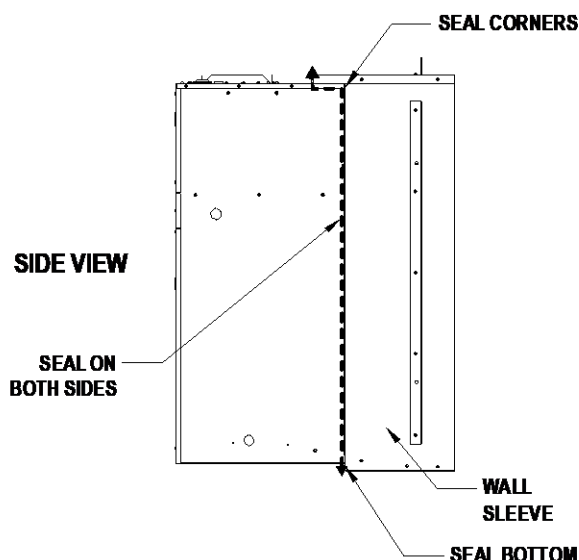

FIGURE 13 – Wall Sleeve Seal
2. Attach the bracket to the FIRST-PAK unit and the wall sleeve using the screws supplied with the wall sleeve. Refer to **FIGURE 13** – below.
7. Inspect the sleeve seal, which is supplied with the sleeve, to ensure that it is properly secured and aligned (see **FIGURE 13 – Wall Sleeve Seal**).